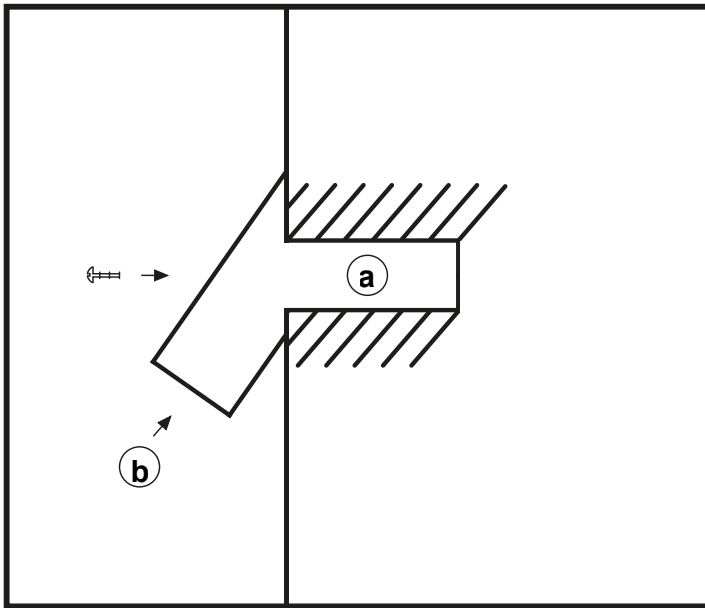
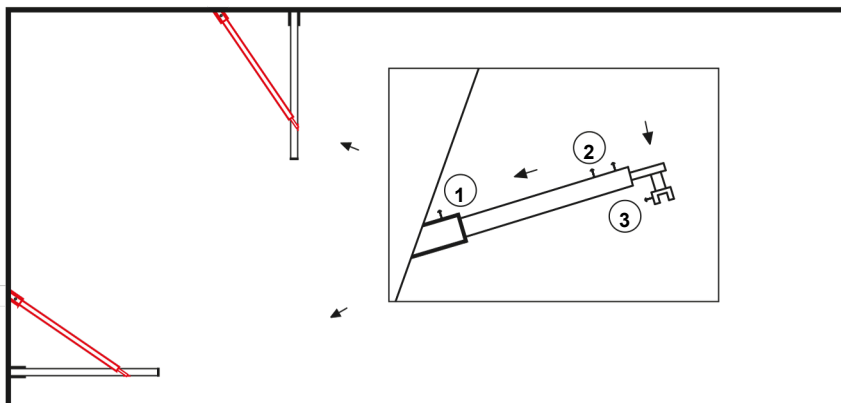

Figure 7
Figure 8: Top View
23. Place the included gaskets into the mounting clamp (3), between the parts that go over the glass and U-profile, to ensure the glass does not touch the metal. (Figure 8)
25. Make a mark on the wall for drilling the mounting hole (a) (Figure 8) and remove the telescopic tube.
27. Unscrew the screw (1) on the telescopic tube (see Figure 8) and remove the wall-mounted part (b) (see Figure 7).
28. Insert part (b) into the previously drilled hole (a) in the wall and secure it with a screw. (Figure 7)
29. Take the telescopic tube and carefully insert it into the wall mount (b) (Figure 7) and rest the other end (3) (Figure 8) on the planned location, on the glass.
30. Fasten it, but do not fully tighten screw (1) yet. NB! The mounting point must be oriented upwards!
31. Secure the telescopic mount to the glass with screw (3). NB! It is important that you have previously installed the gaskets included in the set between part (3) Metal parts must not come into contact with the glass, as this may cause the glass to break.
32. Adjust the glass using a spirit level and later, after installing the door glass, secure the telescopic tube with screws (2), positioned facing upwards.
38. Check with a spirit level that the glass is vertical, that the glass panels are parallel to each other and that the magnetic seals meet correctly, then secure the tube with screws (2) (Figure 8).